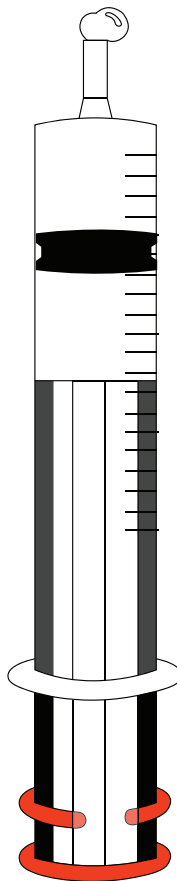

Figure 19 Remove air
13. Remove the syringe from the tube, turn it upside down, and remove residual air (Figure 19).